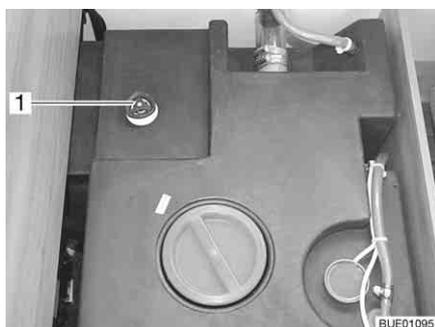

Fig. 144 Water tank with handle
- Turn the handle (Fig. 144,1) on the water tank in an anticlockwise direction as far as possible beyond the resistance to fully open the drainage opening.